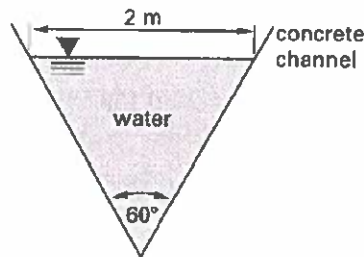

Figure 3. Triangular channel..
8. (5 points) A smooth concrete channel is depicted in Figure 3. The channel's dimensionless slope in the direction of flow is 0.005. The flow width at the surface is 2-meters.